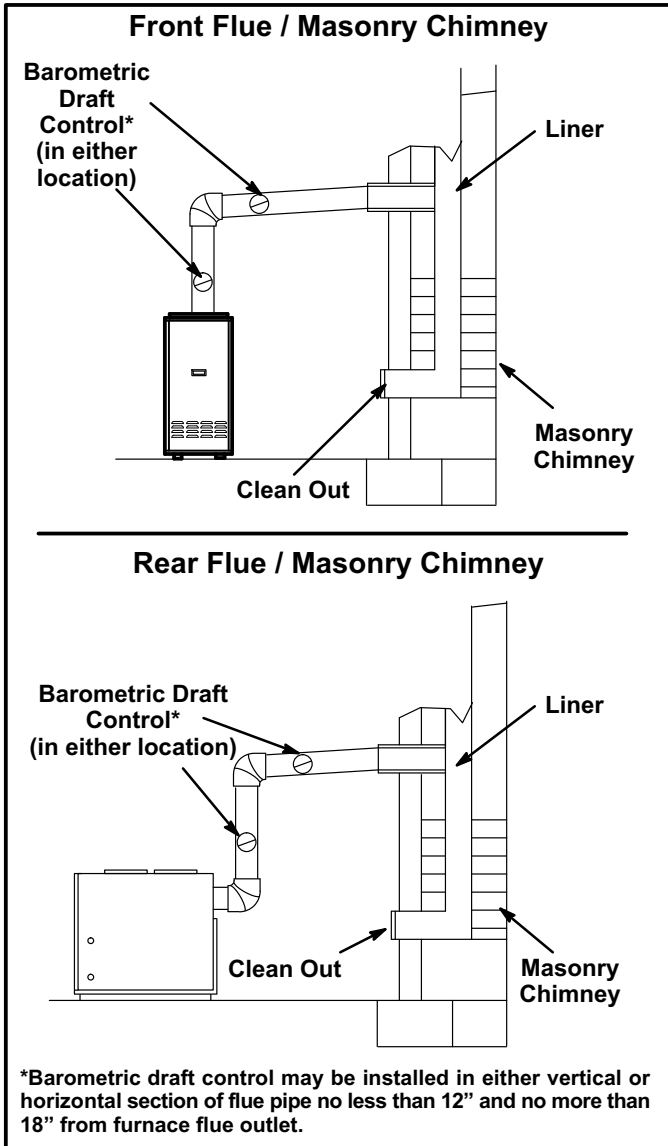

Figure 9
- 9 - The vent pipe should slope upward toward the chimney on horizontal run at least 1/4 inch (6 mm) to the foot (0.3 m) and should be supported by something other than the furnace, such as isolation hangers. See figure 9.